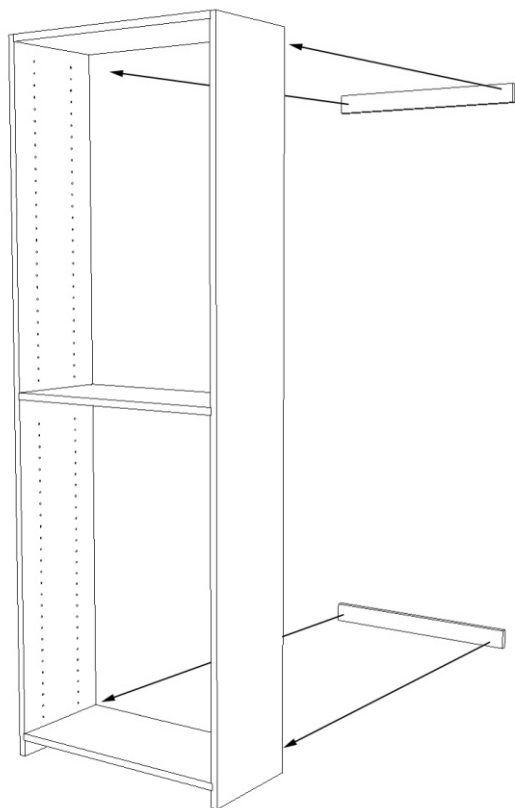

Figure 3
5. Locate the two nailers. Attach one nailer to the upper back of the solid rect. bin flush to the top using the screws provided. Attach the second nailer to the lower back of the side panels flush to the lower back of the solid rect. bin flush to the bottom of the right and left panels. (**Figure 3**)